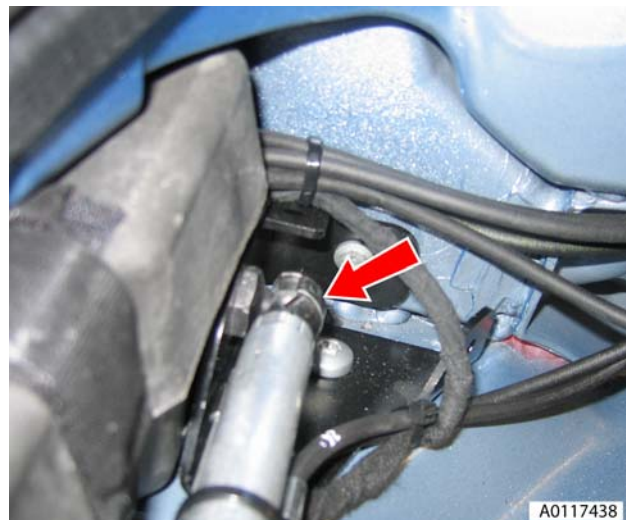

Figure 10
17. Release cylinder lower retaining clip and disconnect cylinder from body (see Figure 10).